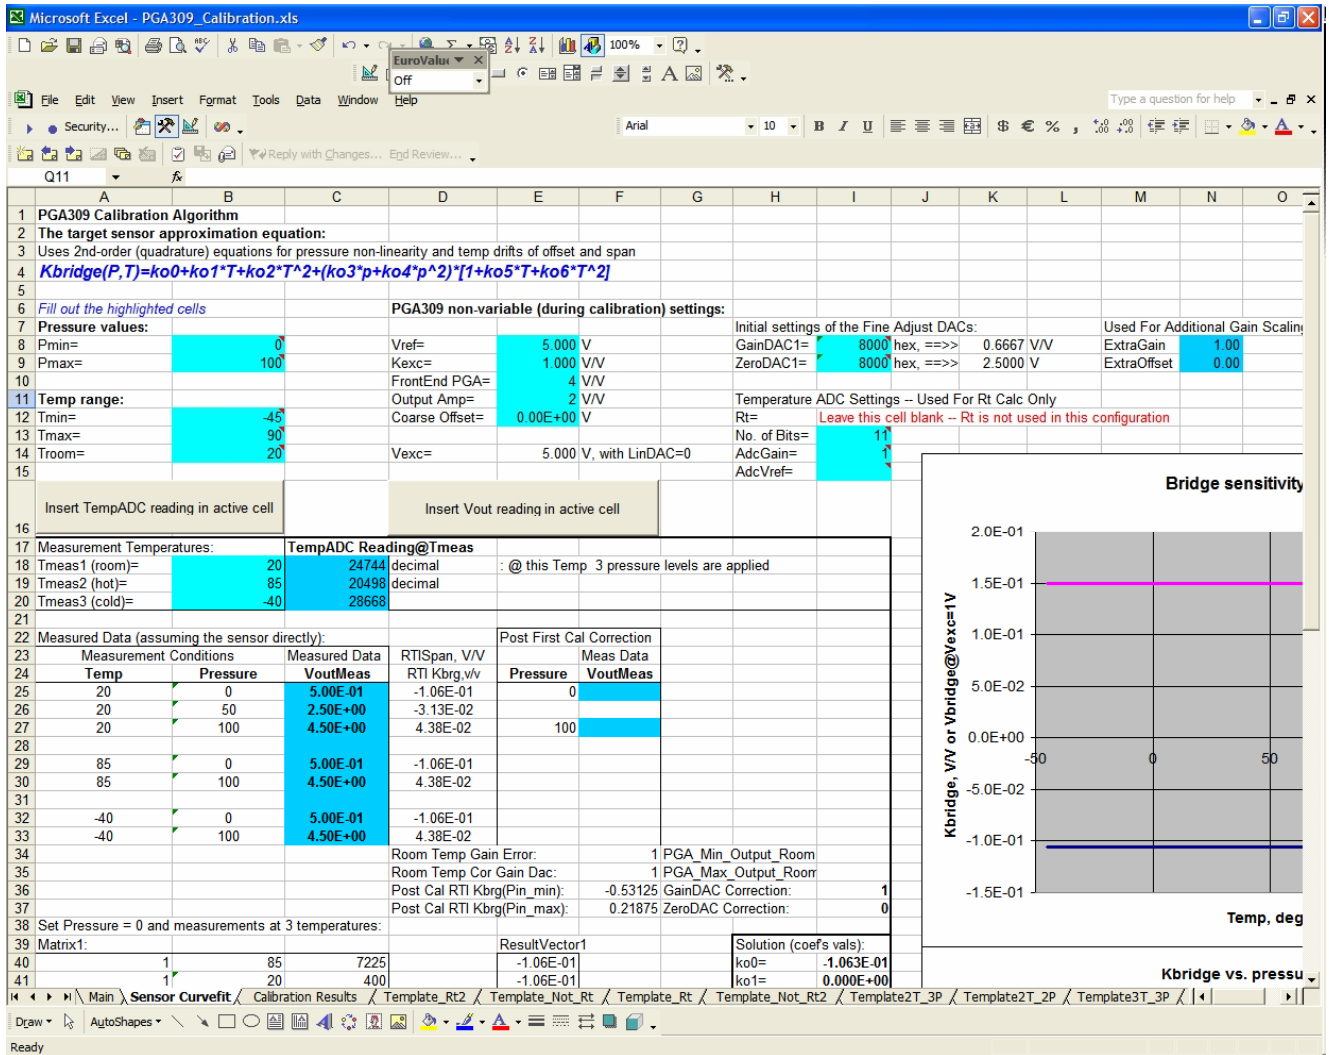

Figure 35: Sensor Curvefit Worksheet
2) The "Sensor Curvefit" Worksheet (Figure 35) is the place where all results of the calibration measurements are entered and the sensor compensation coefficients are calculated. The fields colored light blue contain pre-selected values, such as PGA309 Gain and Offset settings, the temperatures where the measurements are made and sensor pre-characterized parameters (such as span drift non-linearity). The dark-blue fields are the ones where the measured values are entered at each stage of the calibration. The framed area is filled out when "Prepare Calibration Sheet" is clicked on the previous page. It contains the cells with calculations specific to the chosen calibration algorithm. The two control buttons paste in the current worksheet cell either the last Vout reading or the last Temp ADC value from the Board Control Program. This saves the manual typing of the numbers. However, all the data can be also entered manually if the measurements are made with other equipment than the PGA309EVM PC Interface Board.